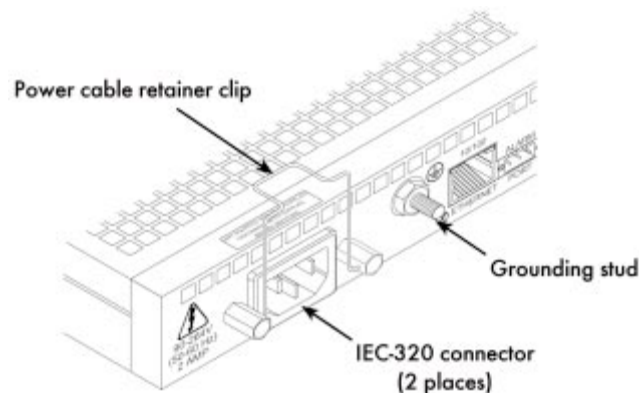

Figure 5. IEC-320 connector and grounding stud locations
1. Install a power cable into an IEC-320 connector (see figure 5). The AC main socket outlet shall be within 3 meters of the equipment and shall be easily accessible.